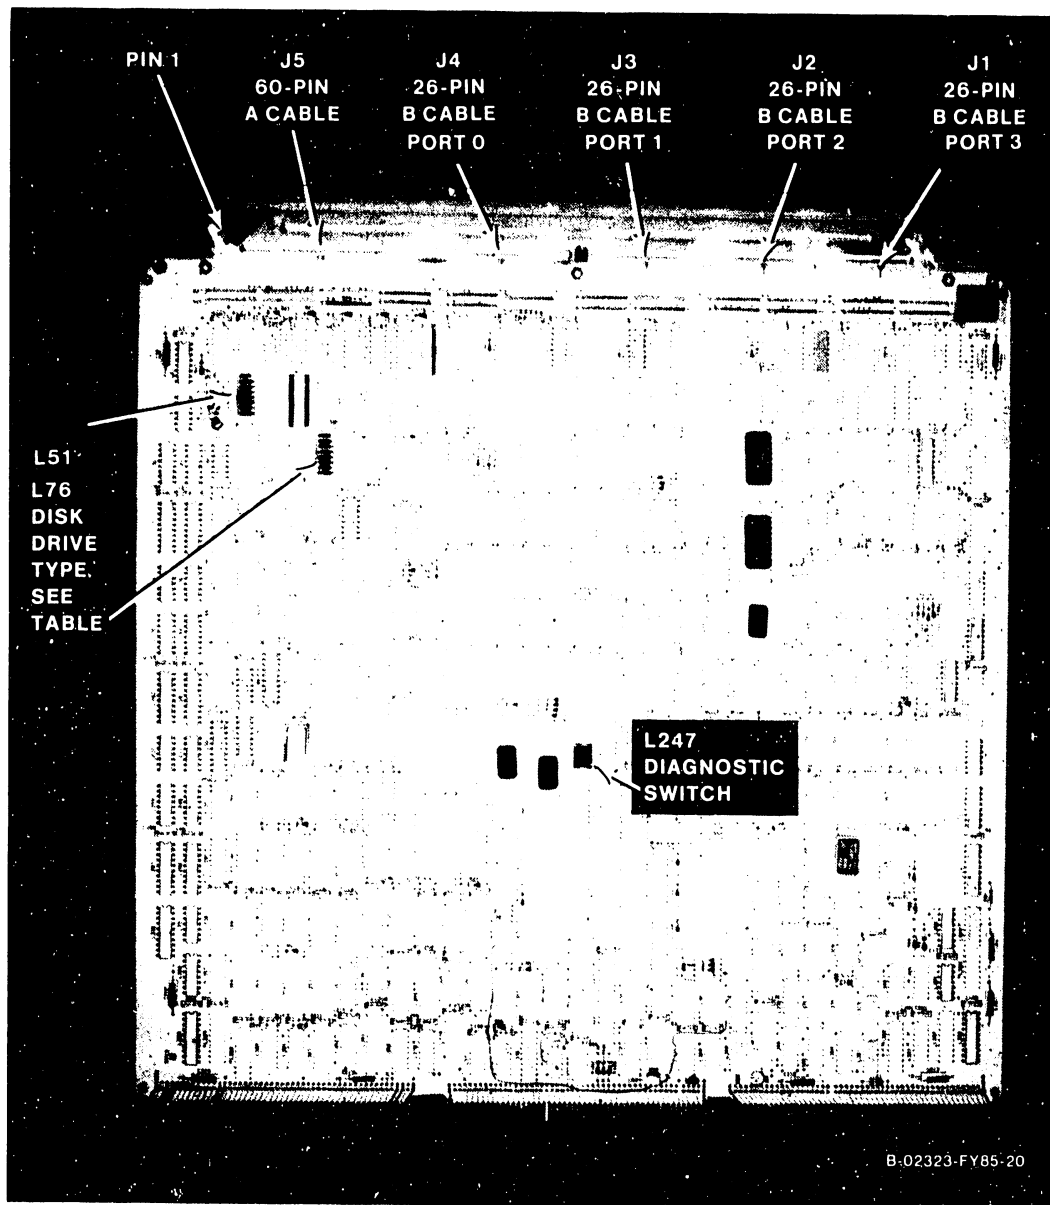

Figure 5-29. 23V98 Disk Drive IOC
1. Disconnect all cables from the top of the 23V98 Disk Drive IOC (figure 5-29). Note the position of all cables for later reassembly.
3. Check the device type switches (figures 5-29 and 5-30, and table 5-8). The two 8-position disk device type switches, SW1 (L76) and SW2 (L51), define the type of drive connected to the 23V98 IOC, ports 0-3. Set the switches for the type of drive(s) connected to the IOC.